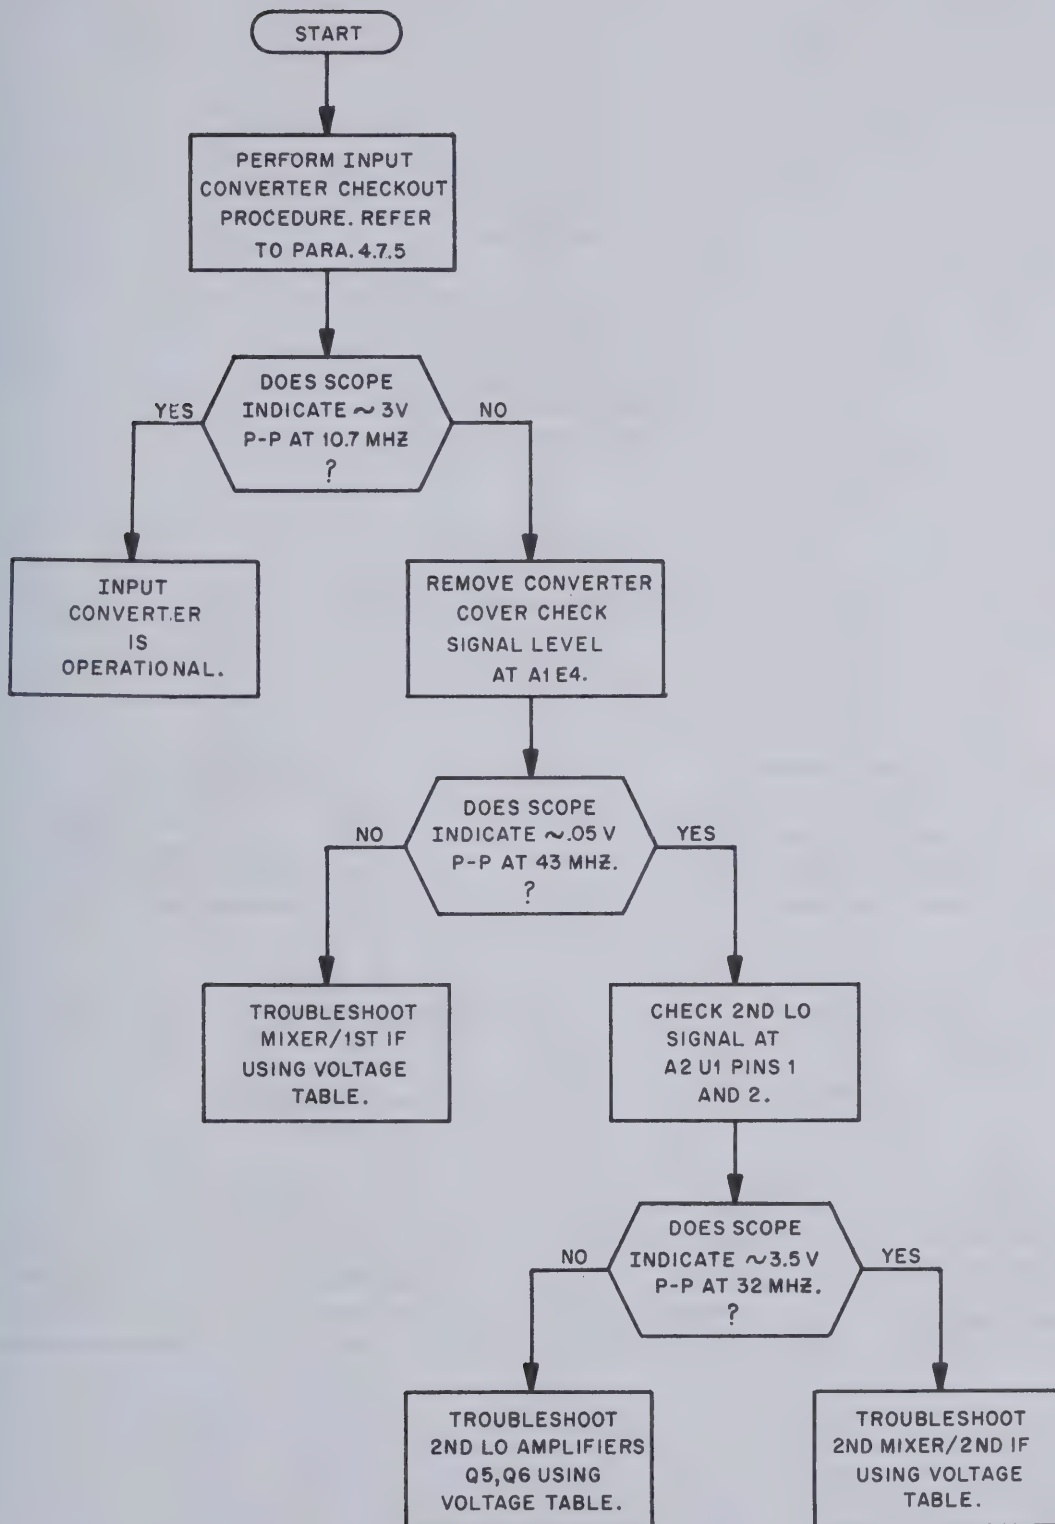

Figure 4-8. Input Converter Troubleshooting Tree.
1. Figure 4-8. Input Converter Troubleshooting Tree